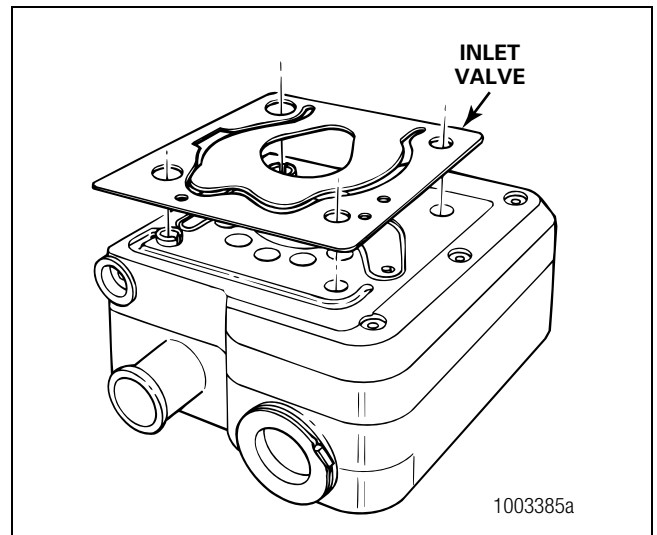

Figure 3.7
3. Position the inlet valve on the bottom of the cylinder head. Align the large holes. Figure 3.7.